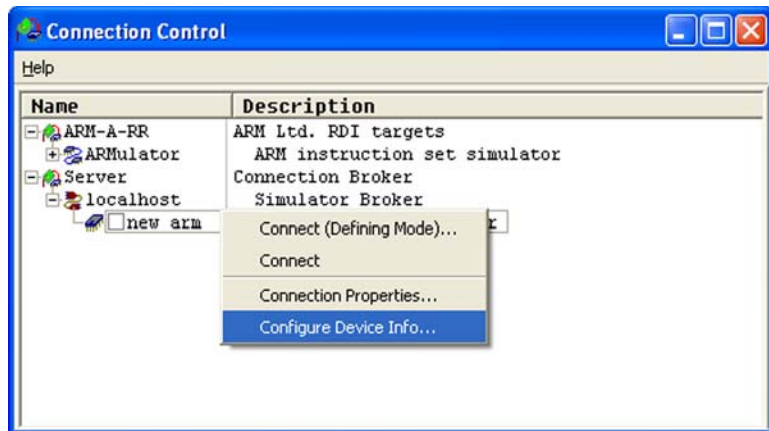

Figure 5-60. RealView Debugger Connection Control Dialog Box
3. Expand the **Server > localhost** branches in the name tree, then right-click **new\_arm** and select **Configure Device Info**, as shown in Figure 5-60.